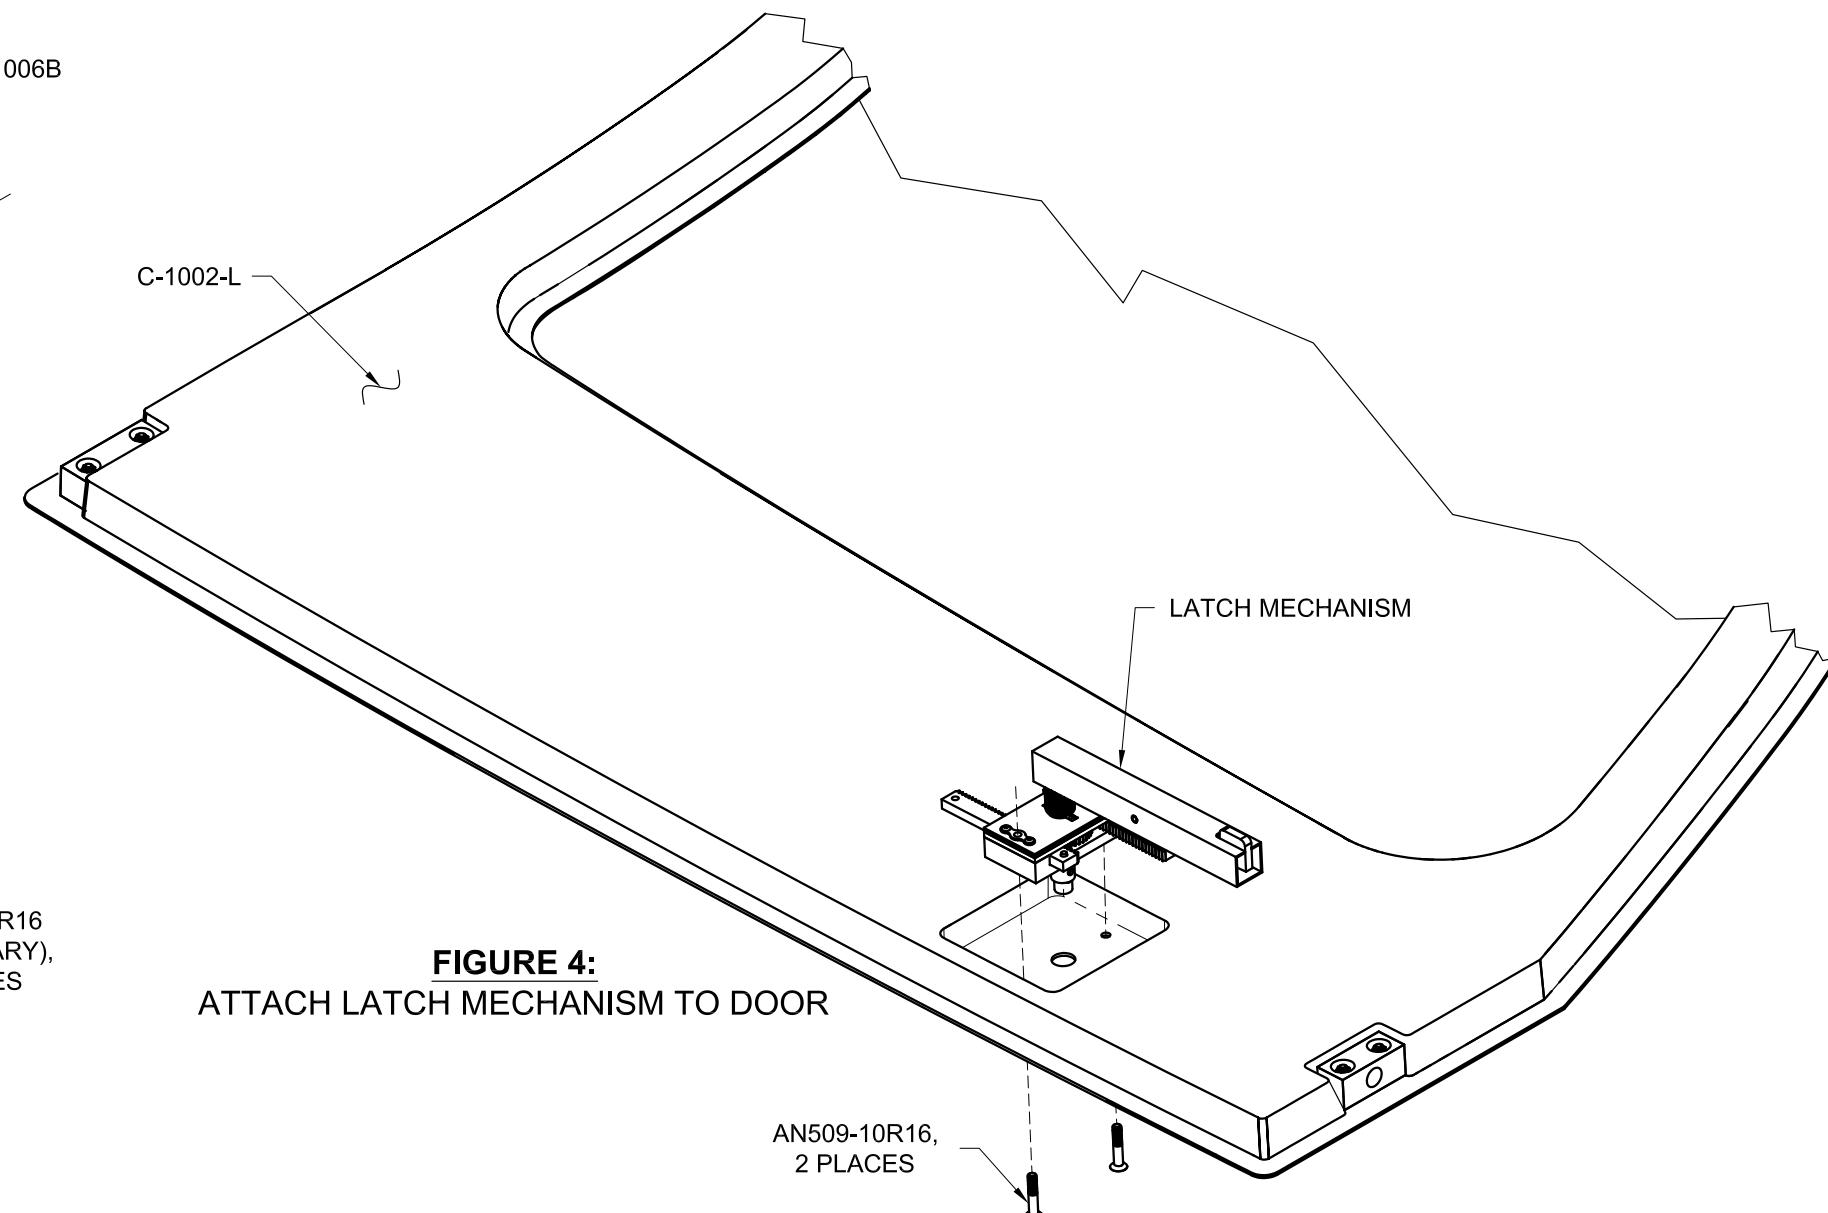

FIGURE 4:
Step 4: Attach the Latch Mechanism to the C-1002-L Door as shown in Figure 4.